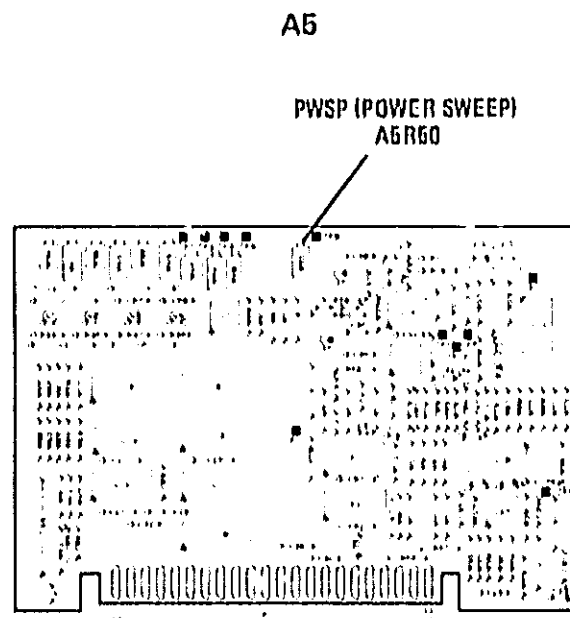

Figure 5-38. Power Sweep Adjustment Location
5. While observing the 8755C display of the RF output, adjust A5R50 (PWSP) for a power level change across the display of 10 dB (10dB/sweep). Refer to Figure 5-38 for the adjustment location.